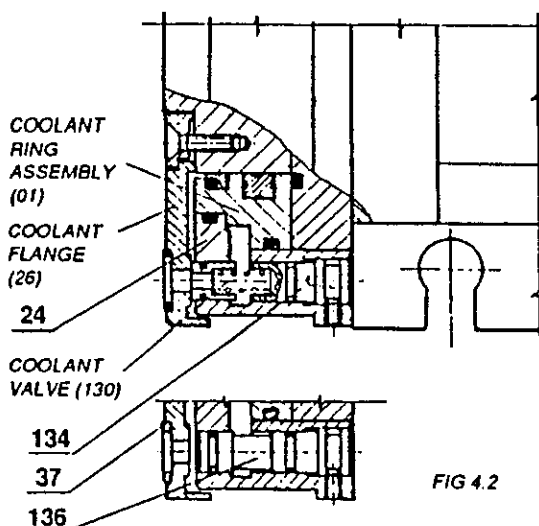

FIG 4.2
4.2 Replacement of Valve Button (fig. 4.2) :